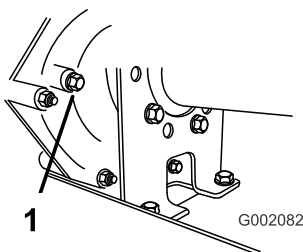

Figure 48
2. Remove the bolt from the level indicating hole (Figure 48).